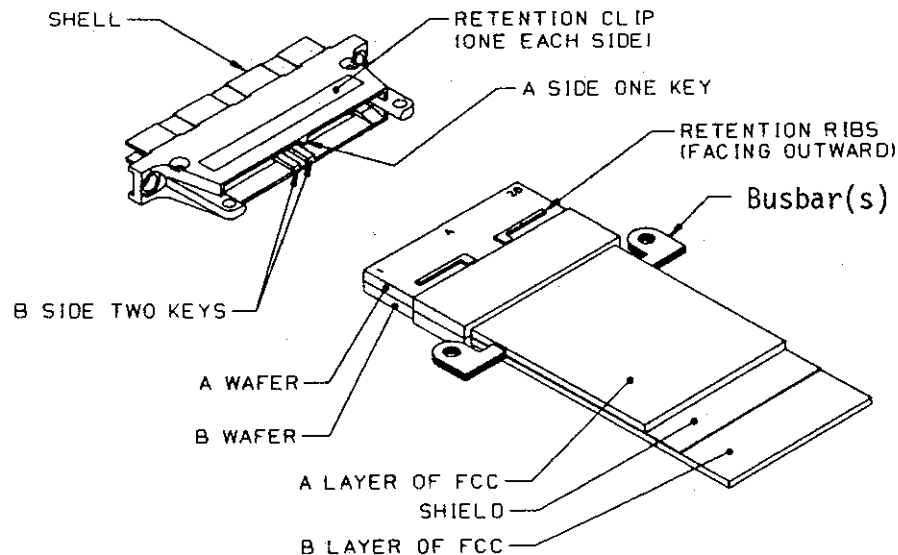

Figure 17. Terminated Insert Pair Ready for Insertion into Shell
3. Orient the A insert toward the A side of the shell and the B insert toward the B side of the shell (Figure 17).